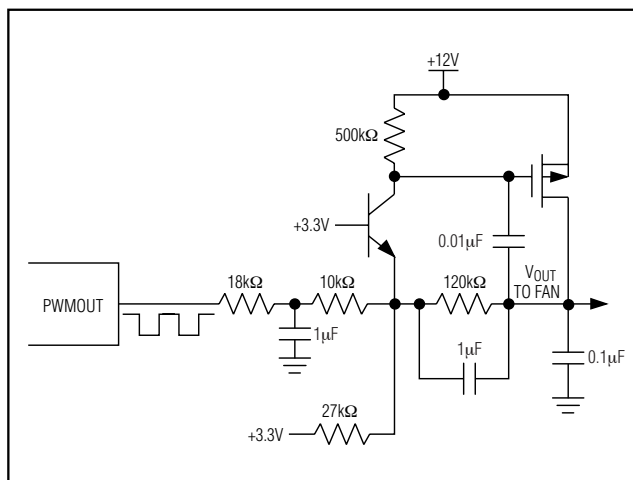

Figure 5. Driving a Fan with a PWM-to-DC Circuit
- 2) PWMOUT\_ is converted (using an external circuit) into a DC voltage that is proportional to duty cycle. This duty-cycle-controlled voltage becomes the power supply for the fan. This approach is less efficient than 1), but can result in quieter fan operation. Figure 5 shows an example of a circuit that converts the PWM signal to a DC voltage. Because this circuit produces a full-scale output voltage when PWMOUT = 0V, bit D4 in register 02h should be set to zero.
The frequency-select register controls the frequency of the PWM signal. When the PWM signal modulates the power supply of the fan, a low PWM frequency (usually 33Hz) should be used to ensure the circuitry of the brushless DC motor has enough time to operate. When driving a fan with a PWM-to-DC circuit as in Figure 5, the highest available frequency (35kHz) should be used to minimize the size of the filter capacitors. When using a fan with a PWM control input, the frequency normally should be high as well, although some fans have PWM inputs that accept low-frequency drive.